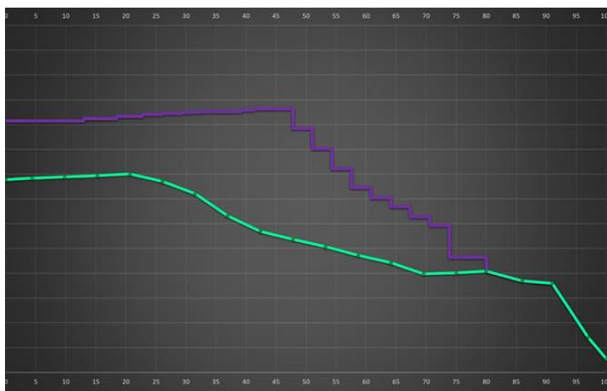

Figure 7
- The attached chart (Figure 7) provides an example of the theoretical maximum charge rate under ideal conditions (purple line) versus the **reduced maximum charge rate with Battery friendly quick charging activated** (mint green line).